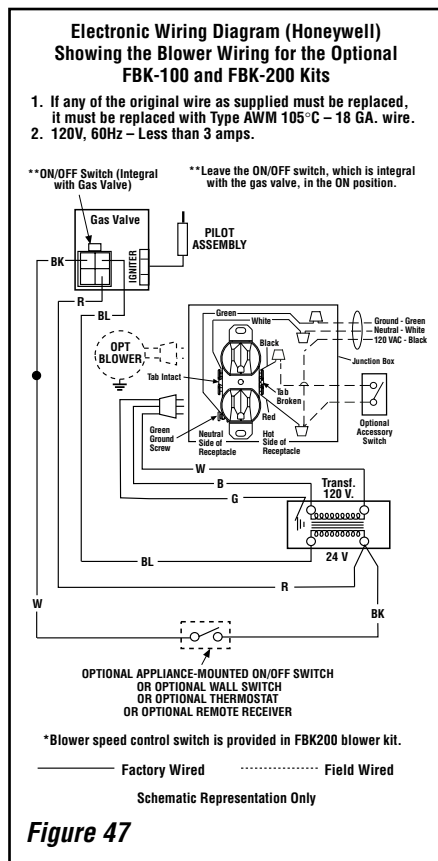

Figure 47
Ground supply lead must be connected to the wire attached to the green ground screw located on the outlet box. See **Figures 47 & 48**. Failure to do so will result in a potential safety hazard. The appliance must be electrically grounded in accordance with local codes or, in the absence of local codes, the National Electrical Code, ANSI/NFPA 70-latest edition. (In Canada, the current CSA C22-1 Canadian Electrical Code).
B. Electronic Wiring (See Figures 47 & 48) –
4. Connect the black power supply wire to the **lower outlet's** red pigtail lead and the white power supply wire to the **common** terminal of the outlet as shown in **Figures 47 & 48**.
8. If an optional control is to be used, wire it in the low voltage circuit as shown in **Figures 47 and 48**.
Note: The gas valve-mounted ON/OFF switch is shown in **Figures 47 and 48**. It is integral with the gas valve and should be set to the **ON** position.
(See **Figure 47** on page 24) -